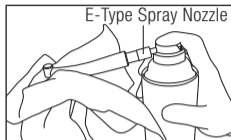

Fig. 17
- 3 Hold the handpiece, and spray for 2 or 3 seconds until oil comes out of the handpiece head (Fig. 17). Repeat lubrication until foreign material stops coming out of the tip.